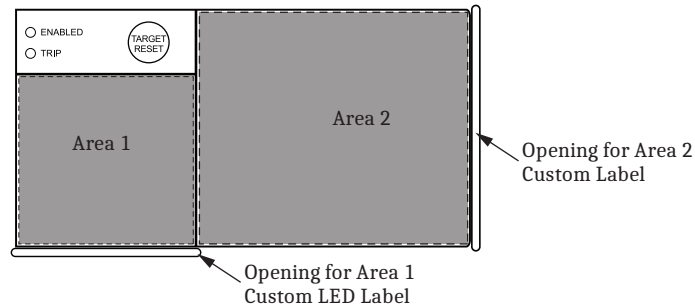

Figure 1 Openings for Front-Panel Custom Labels
The SEL-T401L comes with permanent labels for the front panel (Area 1 and Area 2 shown in *Figure 1*). If you prefer different labels, you can insert your own. Either design your own labels or print your own by using the Custom_Labels.dot Microsoft Word template file along with the perforated stock sheet that is available in the Custom Label Kit (part number 9260145). *Figure 1* shows the two openings that allow you to insert and remove custom labels.
Step 1. Slide the tip of the tool under the label at the pocket opening (see *Figure 1* for the opening locations).